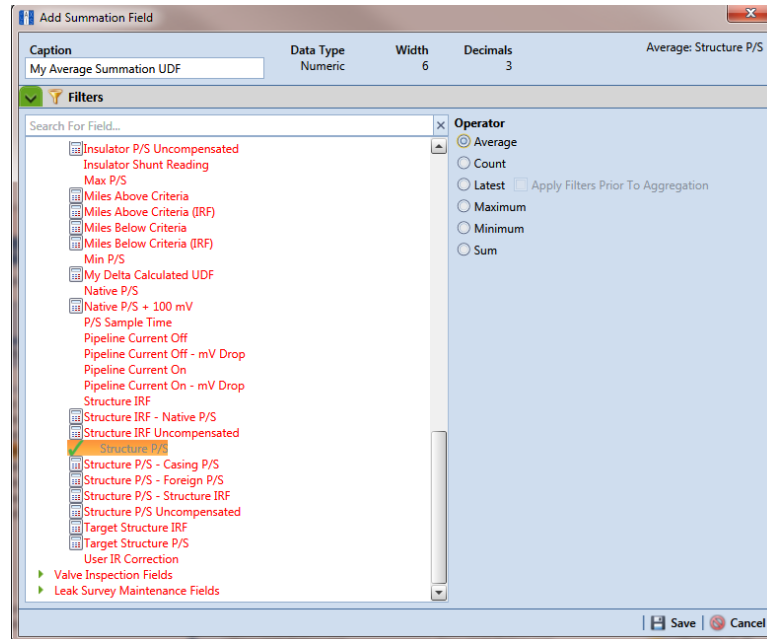

Figure 3-59. Summation Target Field
- 6 Select a target field in the list of fields in the selection panel. For example, click the ► expand arrow for *Test Point Inspection Fields*, then double-click *Structure P/S*. A ✓ green check mark indicates a selection (Figure 3-59, page 108).
- 7 Select an **Operator** option. For example, *Average* is selected in the following figure (Figure 3-59, page 108).